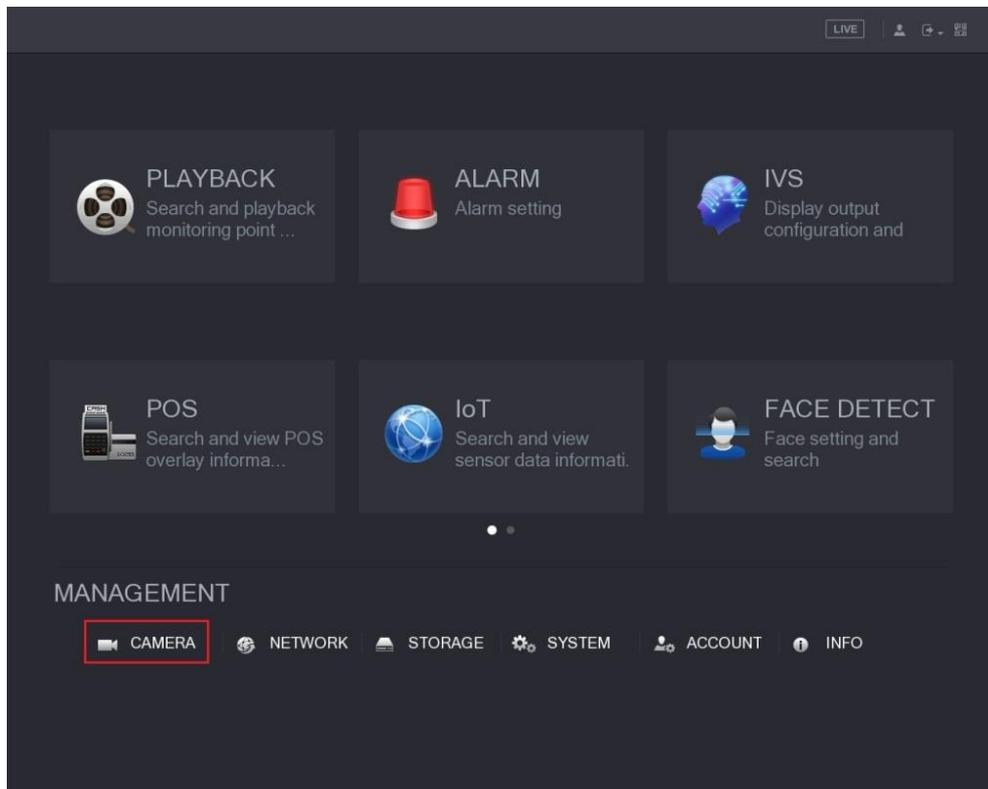
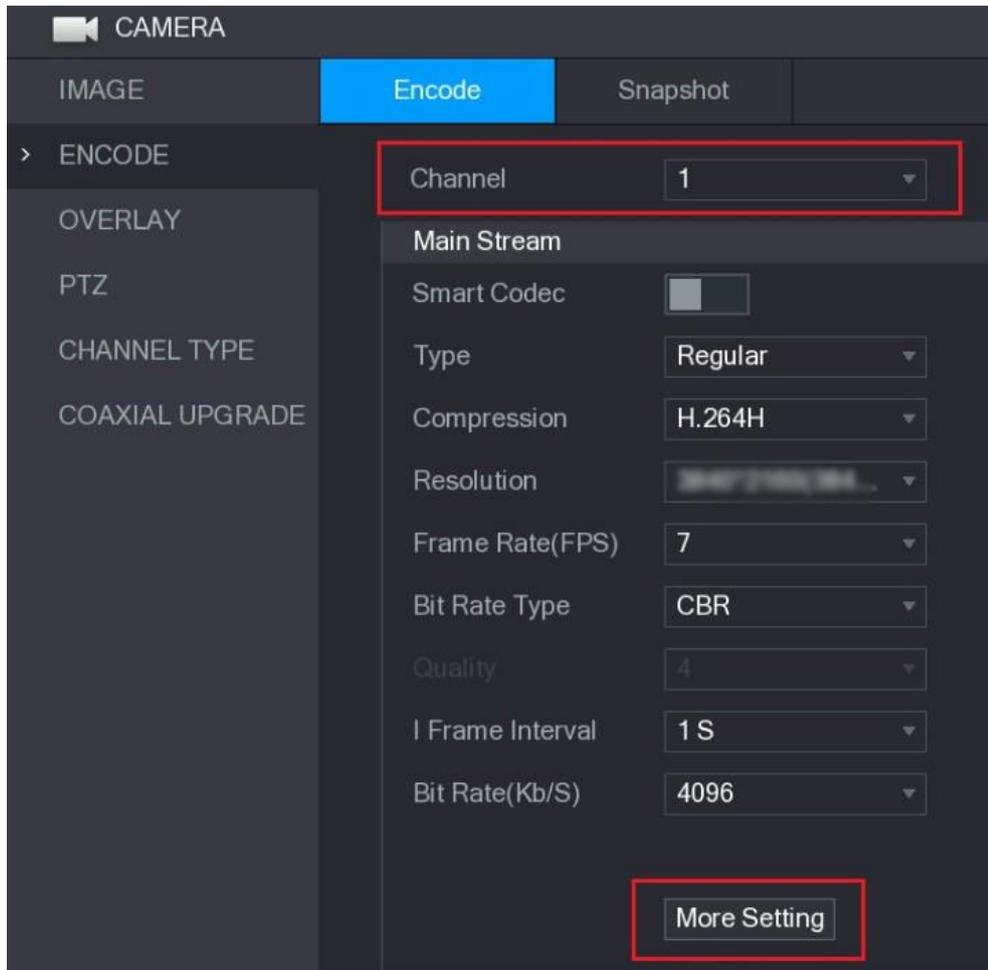

Figure 4-2
Figure 4-3
The **Main Menu** interface is displayed. See Figure 4-2.
Step 1 In the **Main Menu** interface (Figure 4-2), select **CAMERA > ENCODE > Encode**. The Encode setting interface is displayed. See Figure 4-3.
**Step 6** In the Encode setting interface (Figure 4-3), click **Apply**.